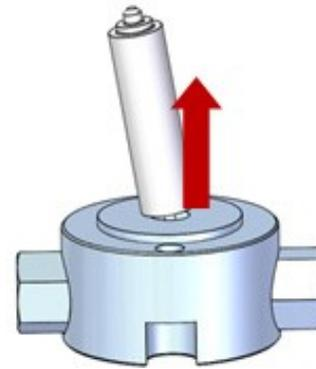

Figure 9: Removing the seals
- Insert the flanged end of the seal insertion/removal tool into the seal cavity on the pump head. Tilt it slightly so that the flange is under the seal, and pull out the seal (Figure 9).